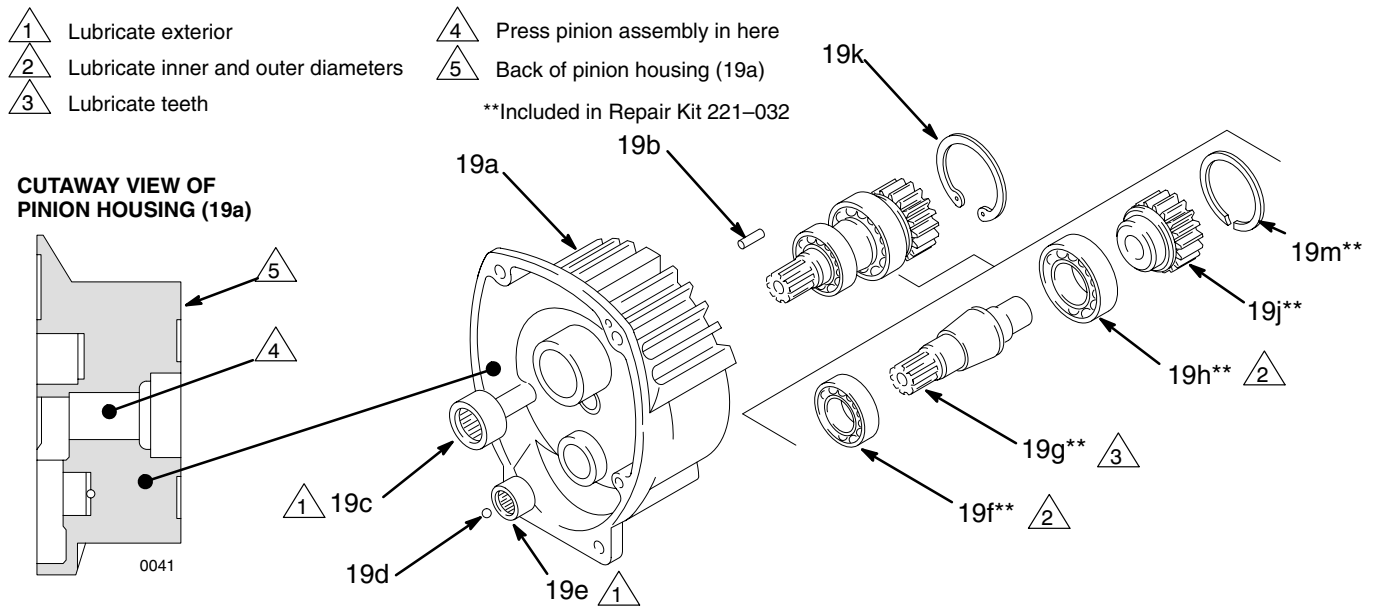

Fig. 9
1. Remove the two bottom screws (10) and lockwashers (11) first, and then remove the top three screws (10) and lockwashers (11).
3. Pull the armature (4a) off the hub (19j – see Fig. 9) of the pinion housing.
NOTE: Refer to Fig. 9 except where noted.
5. Apply lubricant to the parts as shown in Fig. 9.